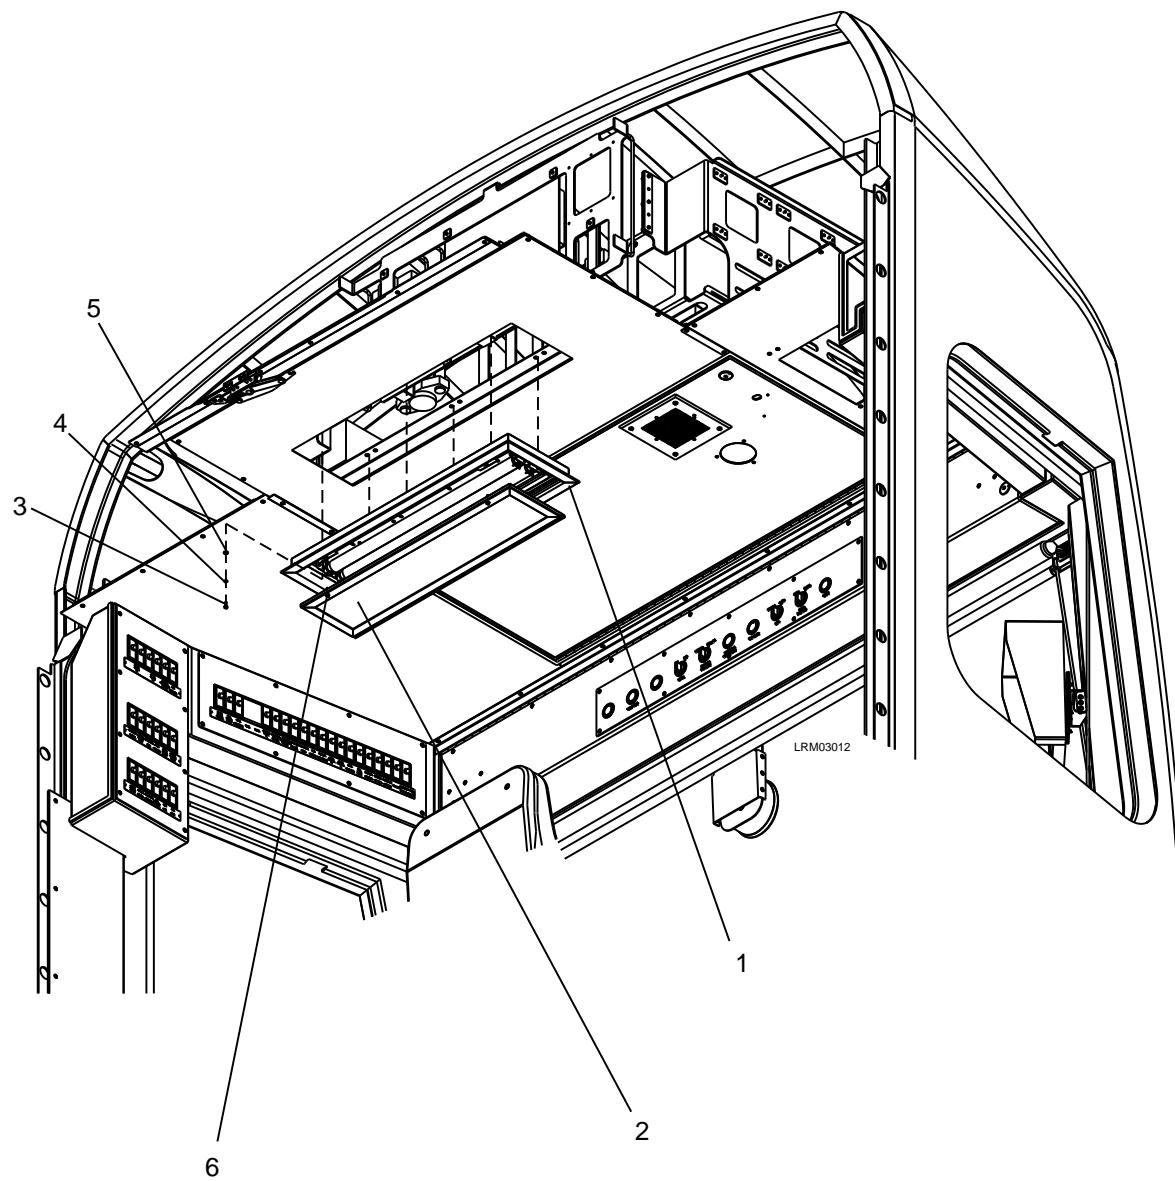

Figure 7-11: Cab Light
1. Unfasten the two captive 8-32 torx head screws (6) from the lens door (2). Open the lens door (2). See Figure 7-11.
2. Remove the six M4 x 16 screws (3), M4 lock washers (4) and M4 plain washers (5).